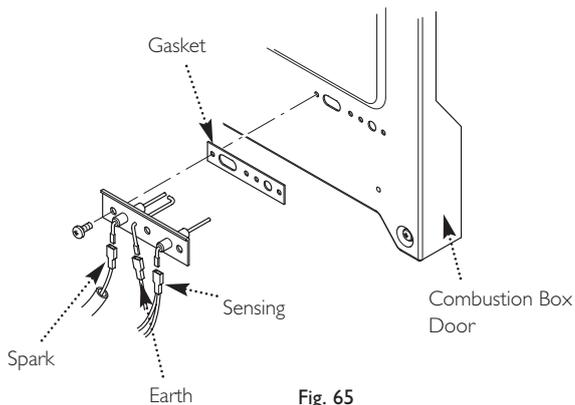

Fig. 65
13.20 Spark and Sensing Electrode (Fig. 65)